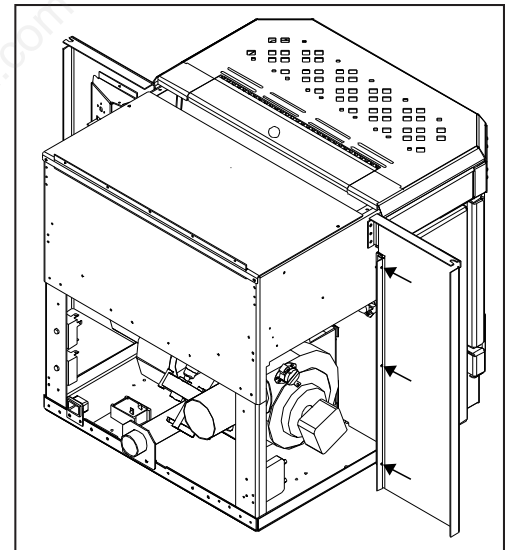

Figure 34: Panel placed on unit.
3. Using three (3) T-20 screws on each side attach the hinges on the side surround panels to the unit's side panels (refer to Figure 34).